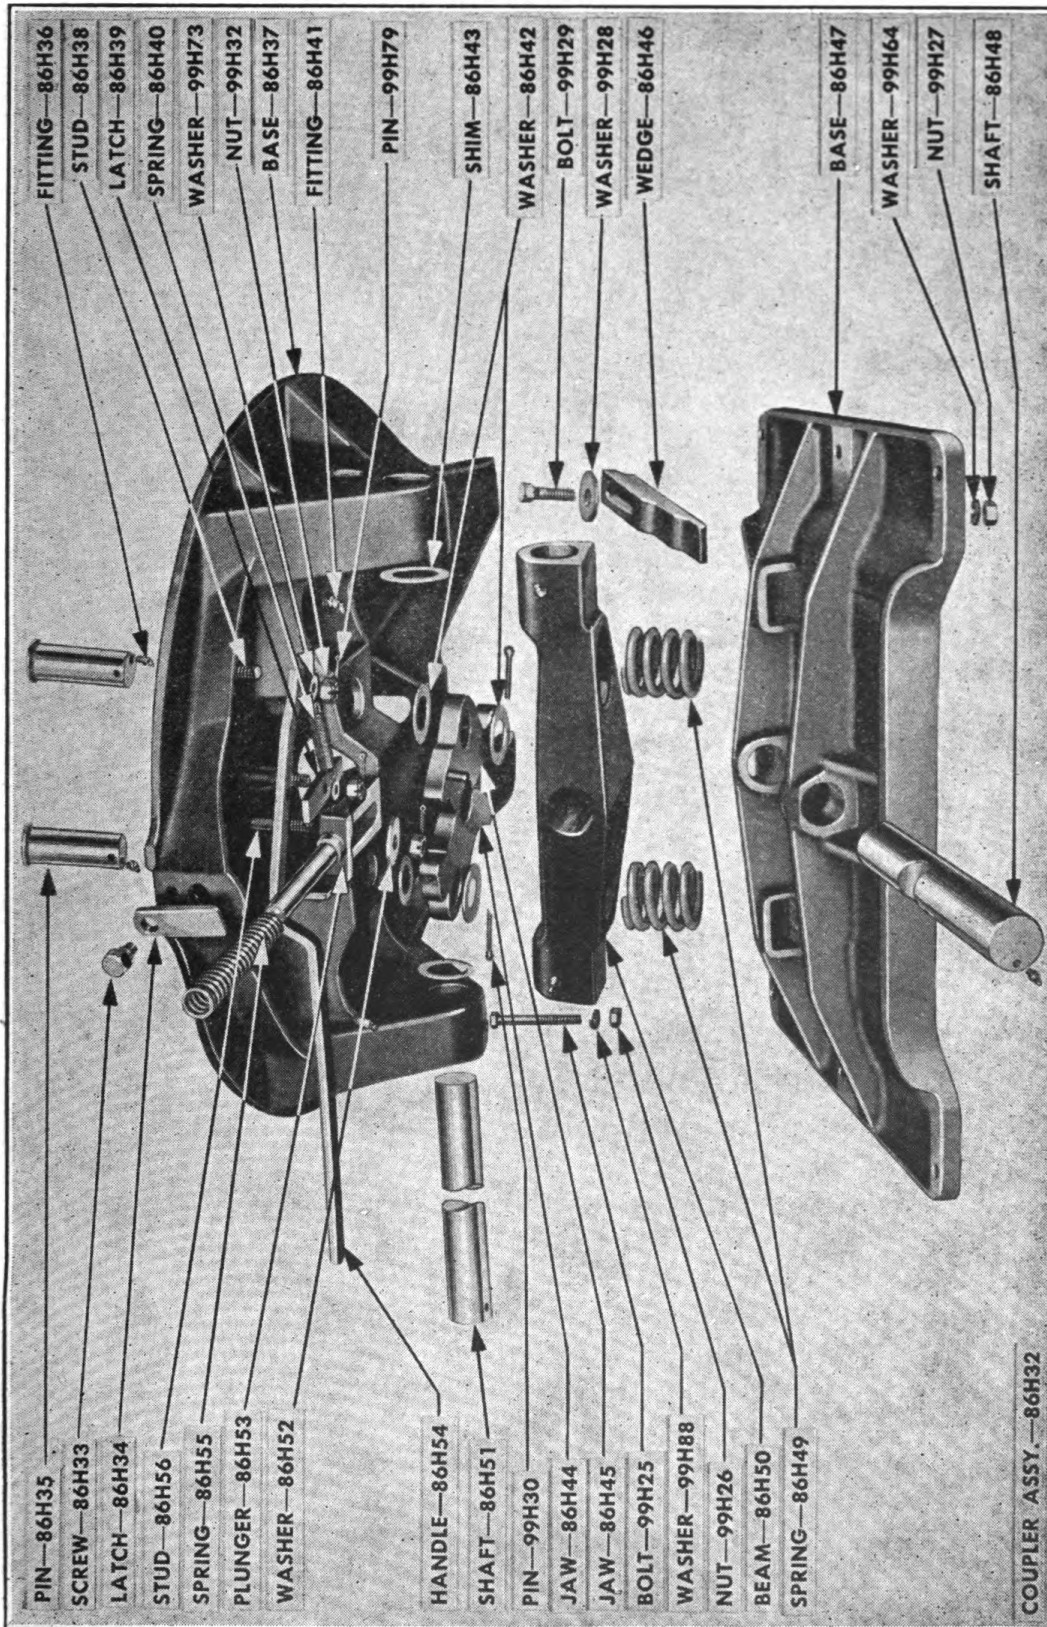

FIGURE 63. DRAWBAR.
9. **DRAWBAR EYE.**—*a. Replacement* (Fig. 63).—Remove drawbar by simply removing the two bolts holding drawbar to drawbar frame bracket.
10. **REPLACING AND REPAIRING SAFETY CHAINS** (Fig. 63).—*a.* Safety chains are held to the front crossmember with eye bolts. By removing weld from inner side of eye bolt with an acetylene cutting torch, a complete safety chain can be replaced.